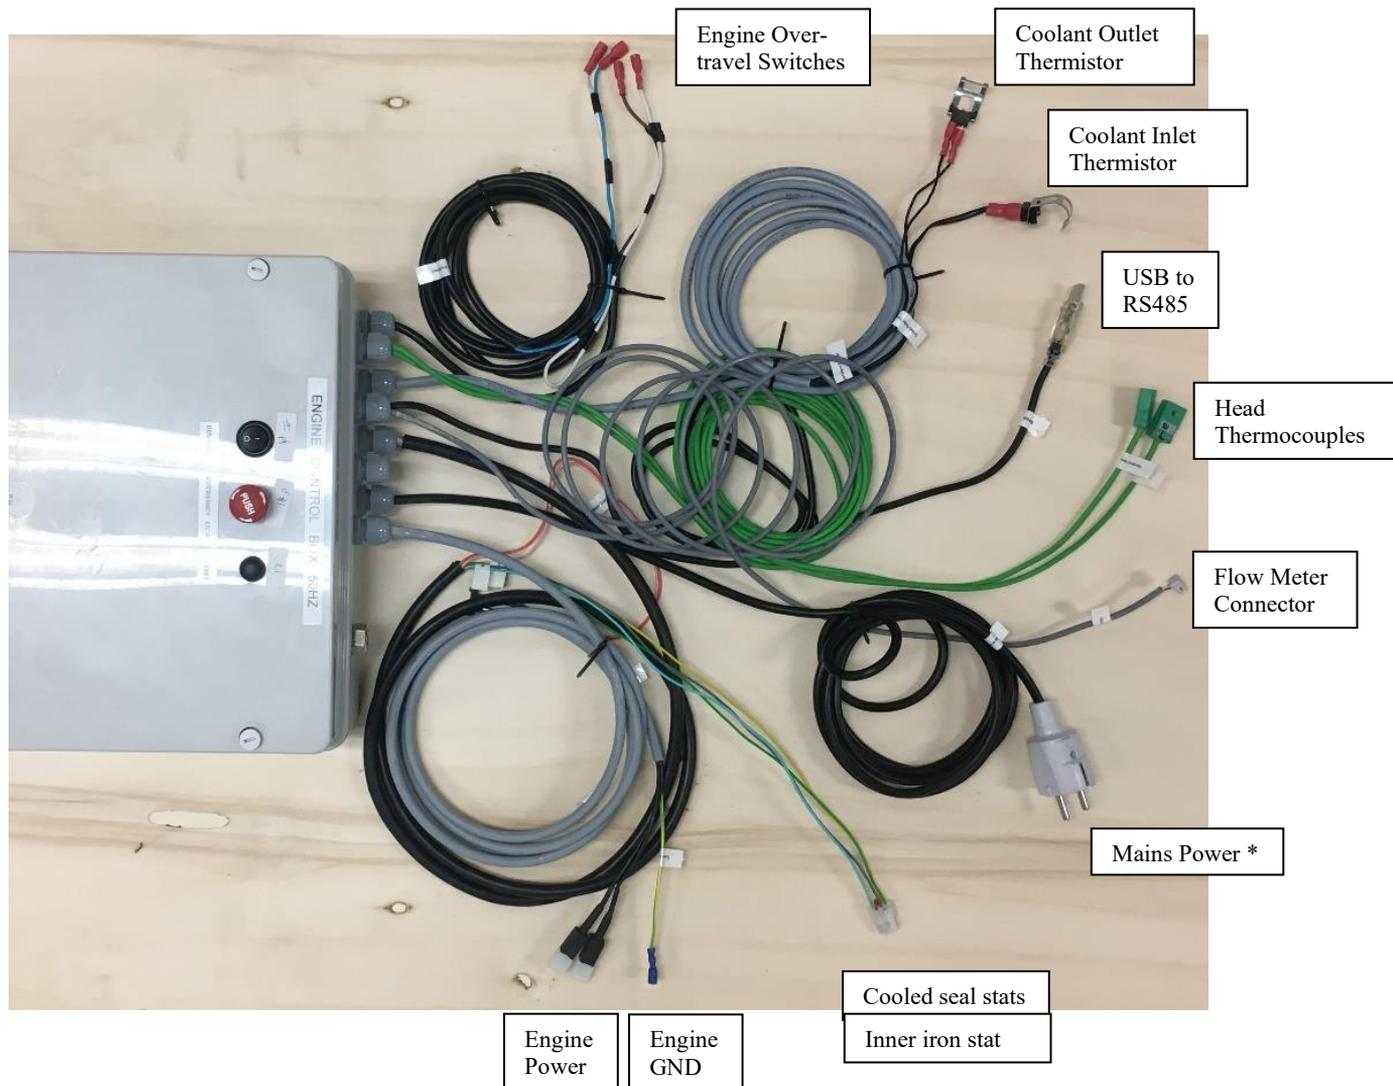

Figure 5.1 Control Box electrical connections
5.1 Controls Box connections shown in fig.5.1 explained 9
5.1 Controls Box connections shown in fig.5.1 explained